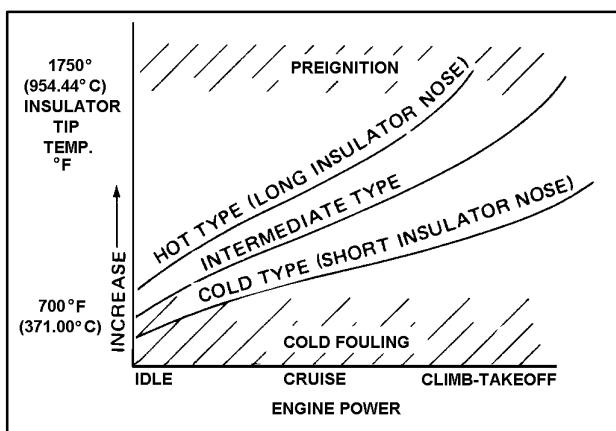

FIGURE 8-2. Chart of spark plug temperature ranges.
(1) Spark plugs have been classified as "hot," "normal," and "cold." However, these terms may be misleading because the heat range varies through many degrees of temperature from extremely hot to extremely cold. Thus the words "hot," "cold," and "normal" do not necessarily tell the whole story.
(2) Since the insulator is designed to be the hottest part of the spark plug, its temperature can be related to the pre-ignition and fouling regions as shown in figure 8-2. Pre-ignition is likely to occur if surface areas in the combustion chamber exceed critical limits or if the spark plug core nose temperature exceeds 1,630 °F (888 °C). However, fouling or short-circuiting of the plug due to carbon deposits is likely to occur if the insulator tip temperature drops below approximately 800 °F (427 °C). Since spark plugs must operate between fairly well-defined temperature limits, they must be supplied in various heat ranges to meet the requirements of different engines under a variety of operating conditions.